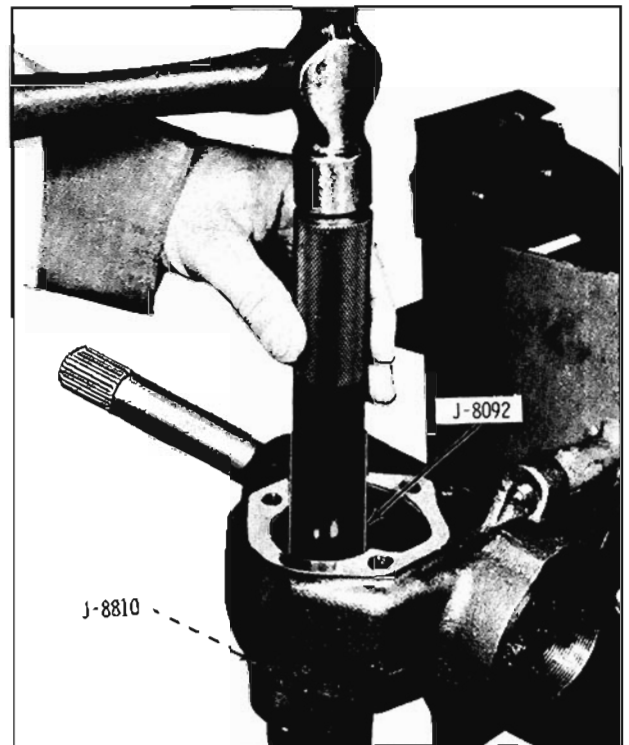

Fig. 8-14 Removing Bushing
2. If pitman shaft bushing is to be replaced, use Tool J-8810 with Driver Handle J-8092 to drive bushing and seal from housing. (Fig. 8-14)